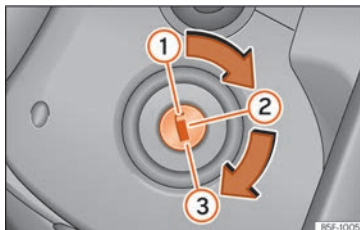

Fig. 236 Vehicle key positions
Vehicle keys »» Fig. 236
Vehicle keys » Fig. 236
3.	Only in vehicles with diesel engine: for preheating, turn the key in the ignition lock to position »» Fig. 236 ②. A control lamp lights up on the dash panel ⏻.